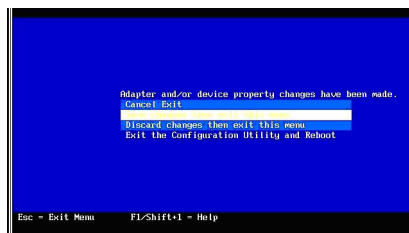

Figure 6. Saving configuration changes for the SAS Expansion Card
3. Press Esc to exit the Adapter Properties screen until the utility asks you to save the configuration as shown in Figure 6. Use the arrow keys to select Save changes then exit this menu, then press Enter. Back on the Adapter List screen, the **Status** of the external adapter now displays as **[Disabled]**.